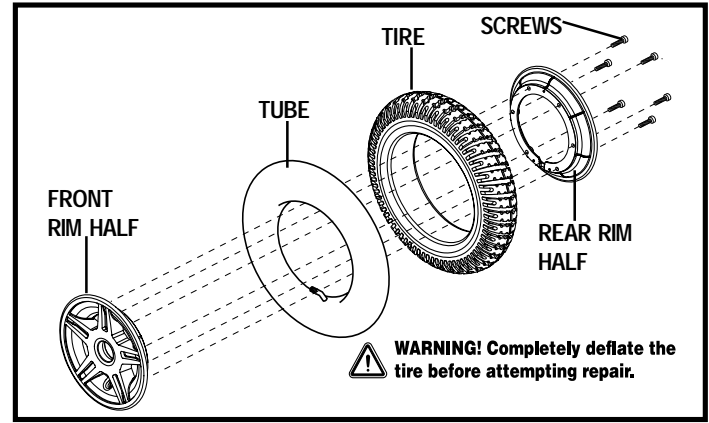

Figure 21. Jazzy Select 14 Series Drive Wheel Disassembled
6. Remove the screws that fasten the two rim halves together. See figure 21.